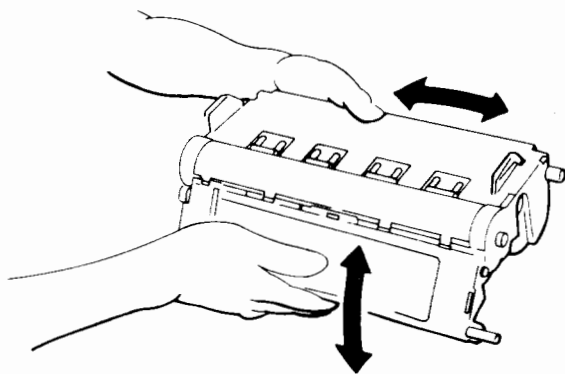

Figure 7-12 Distributing toner in the process cartridge
1. Remove the new cartridge from its carton and rock it carefully as shown in Figure 7-12 to distribute the toner. Don't turn it upside down, as toner may spill out.